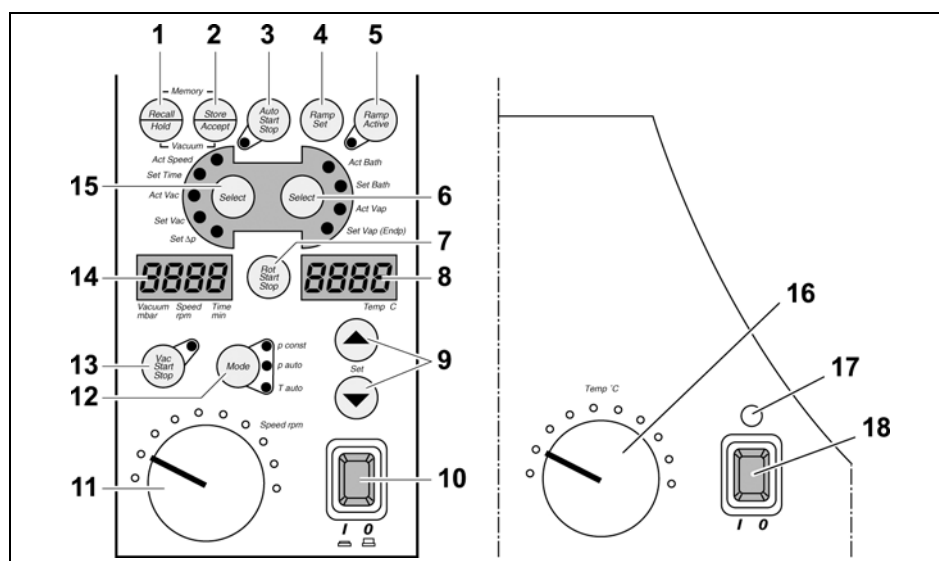

Fig. 6-1: instrument base / heating bath control panel
- ✓ Rotary evaporator is switched on at the instrument base power switch (Fig. 6-1 (10)) and operational.
The message **OIL** will appear on the display of the heating bath (Fig. 6-1 (8)) for one second when setting temperatures higher than 100°C.
1. Switch on the heating bath with its power switch (Fig. 6-1 (18)).
The heating bath power switch will be lit green (Fig. 6-1 (18)).
2. Use the heating bath knob (Fig. 6-1 (16)) to set the temperature at least 20°C higher than the required temperature.
3. Press **Select** (Fig. 6-1 (6)) until **Set Bath** LED is lit.
4. Use the arrow buttons (Fig. 6-1 (9)) to set the setpoint temperature.
The setpoint temperature is visible on the display (Fig. 6-1 (8)). After 5 seconds, the current actual temperature appears on the display and the **Act Bath** LED is lit.
The lit yellow heating bath signal lamp (Fig. 6-1 (17)) over the heating bath power switch (Fig. 6-1 (18)) indicates that the heating bath is warming up.
- Press **Select** (Fig. 6-1 (6)) until **Act Vap** LED is lit.
The boiling temperature is visible on the display (Fig. 6-1 (8)).
- Press **Vac Start Stop** (Fig. 6-1 (13)) button.
The LED next to the **Vac Start Stop** (Fig. 6-1 (13)) button is lit when active.
Press the **Vac Start Stop** (Fig. 6-1 (13)) button again to switch vacuum control off.
Setting a value for Δp is superfluous when using the ROTAVAC vario control. The display (Fig. 6-1 (14)) shows **Set Δp : ----**. Vacuum control is realised via the speed of the pump.
1. Press **Mode** (Fig. 6-1 (12)) until **Mode p const** LED is lit.
2. Press **Select** (Fig. 6-1 (15)) until **Set Vac** LED is lit.
3. Use the arrow buttons (Fig. 6-1 (9)) to set the required vacuum.
The vacuum setpoint is visible on the display (Fig. 6-1 (14)).
4. Press **Select** (Fig. 6-1 (15)) until **Set Δp** LED is lit.
5. Use the arrow buttons (Fig. 6-1 (9)) to set the desired differential gap (hysteresis) Δp .
1. Press **Mode** (Fig. 6-1 (12)) until **Mode t auto** LED is lit.
2. Press **Select** (Fig. 6-1 (6)) until **Act Vap** LED is lit.
4. Press **Select** (Fig. 6-1 (6)) until **Set Vap** LED is lit.
5. Use the arrow buttons (Fig. 6-1 (9)) to set the required temperature.
The setpoint temperature is visible on the display (Fig. 6-1 (8)).
After five seconds, **Endp** appears in the display (Fig. 6-1 (14)).
6. Use the arrow buttons (Fig. 6-1 (9)) to set the desired final pressure at which distillation is to be aborted.
The selected final pressure is visible on the display (Fig. 6-1 (8)).